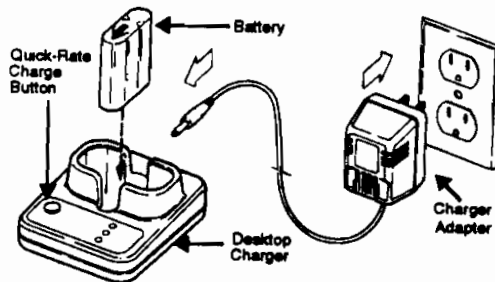

Figure 15.
1. Connect the Desktop Charger and AC Adapter as shown in the Figure 15.
2. Remove the battery pack from the radio and place it into the charger pocket with the silver contacts facing down and the arrow facing forward as shown in Figure 15. The battery pack fully charges in approximately 10 or 16 hours, depending upon which battery charger you use.